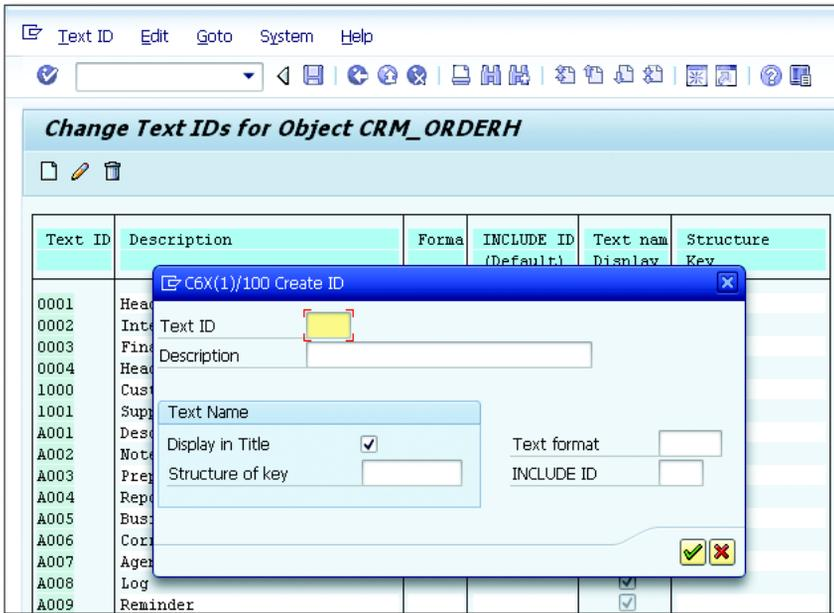

Figure 4.56 Create ID Popup
3. Create the TEXT ID based on the text ID required for your business scenario by clicking on the CREATE button. A dialog box will appear where you can enter the ID information (see Figure 4.56).